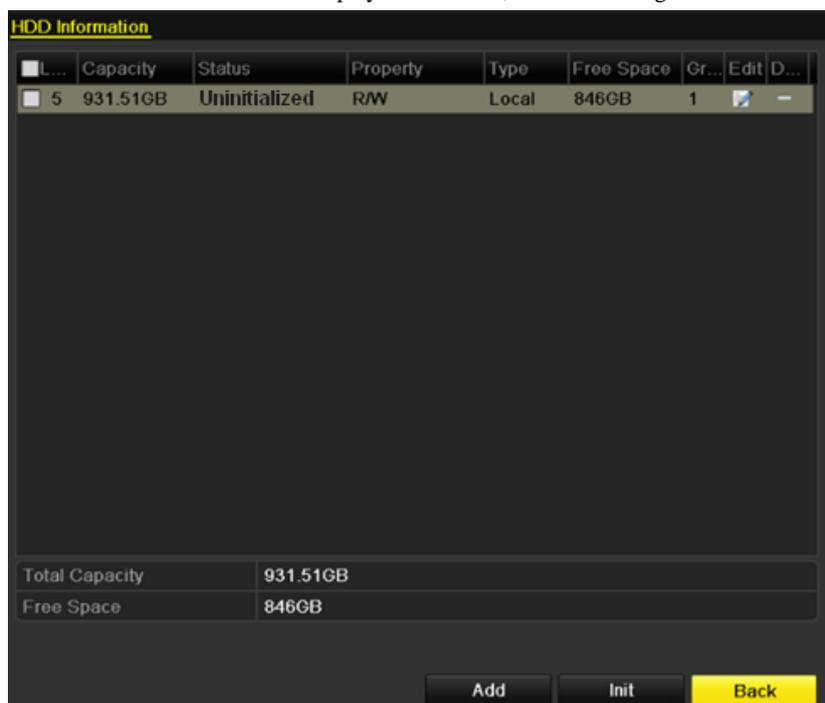

Figure 10. 18 View HDD Status (1)
2. Check the status of each HDD which is displayed on the list, as shown in Figure 10. 18.